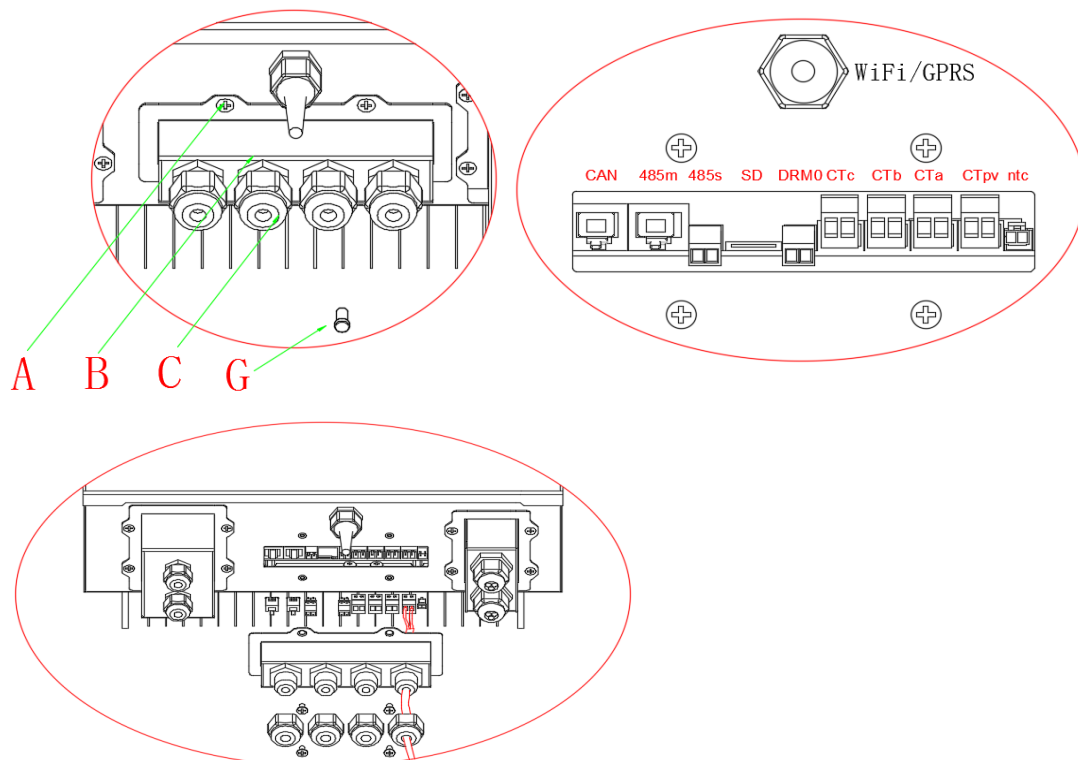

Fig. 9 CT / RS485 connection
Step 5: Route RS485 network cable through the cable gland, connect RS485 network cable to RJ45 connector and then insert the RJ45 connector into RS485m port. (Fig. 9)